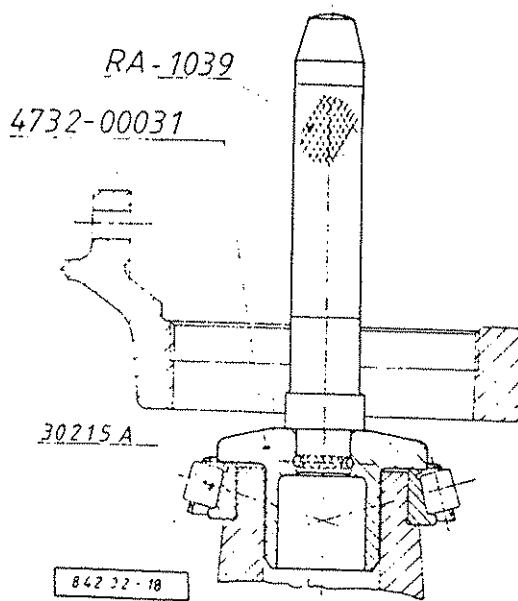

Fig. 2.: DRIVING ON THE TAPER ROLLER BEARING CONE
By means of the tool shown in Fig. 2. tap the differential toward the flanged differential case half (31) so, the outer race of the taper roller bearing (19) shall fall out.
Position the cone of the taper roller bearing (19) to the differential case half (24) and by means of the tool shown drive on to bottom out (see Fig. 2).